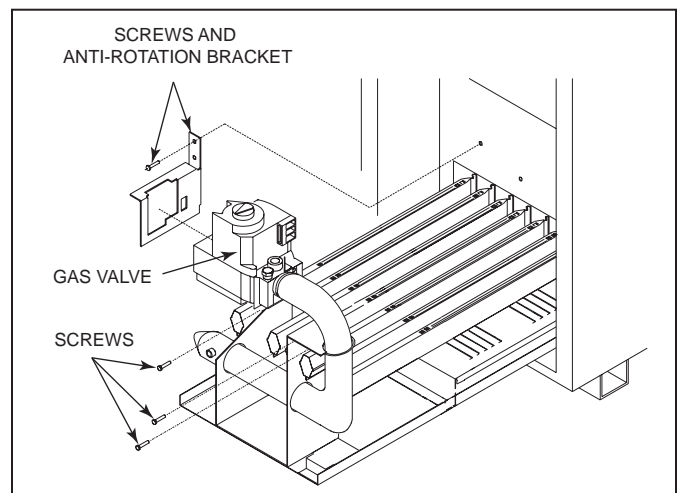

Figure 1. Removal of the Burner Tray
5. Remove the burner tray from the heater as follows: See Figure 1.